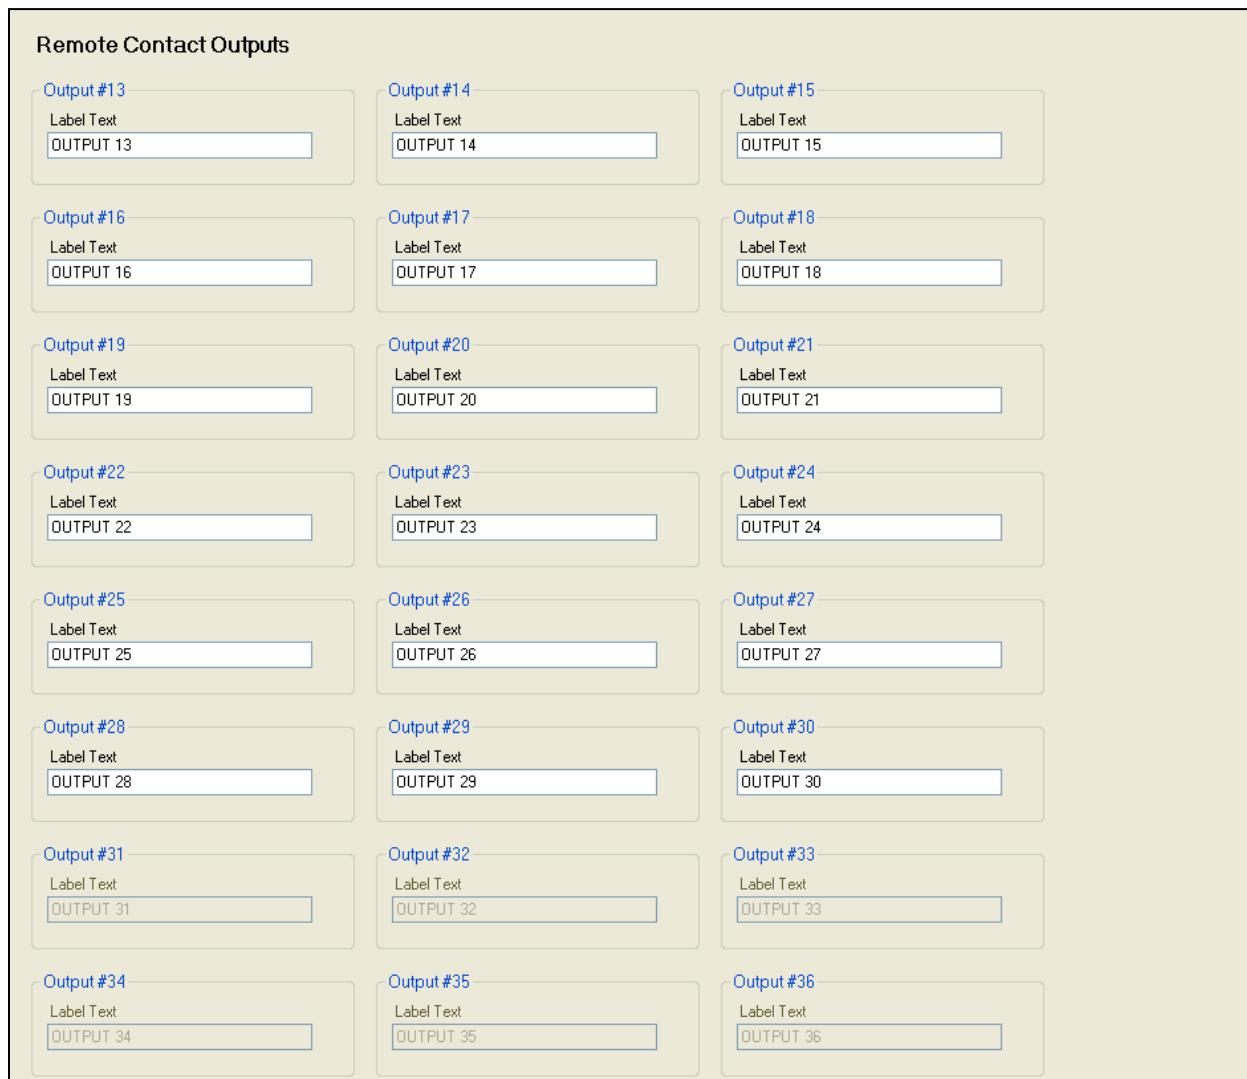

Figure 6-52. Settings Explorer, Programmable Outputs, Remote Contact Outputs Screen
3. Configuring Remote Contact Outputs on the CEM-2020. See Figure 6-52.